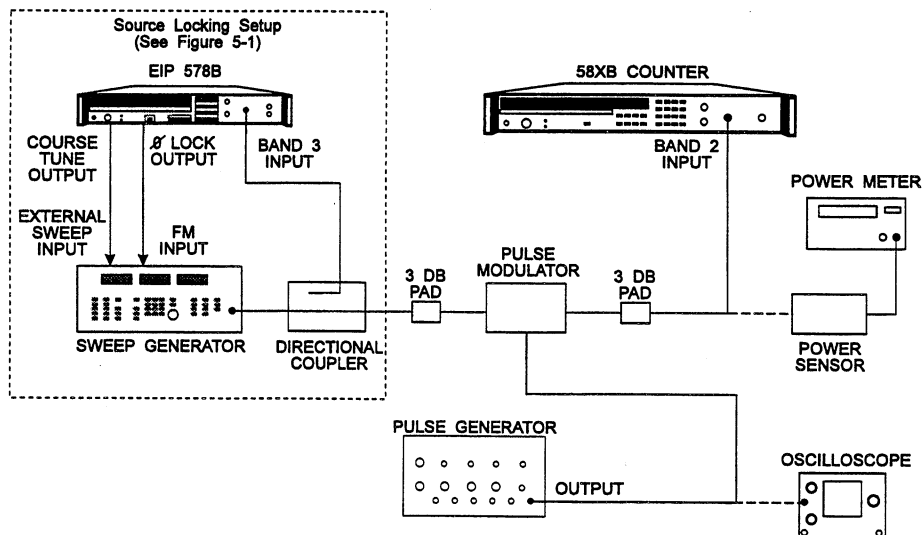

Figure 5-6. Band 2 Pulsed Signal Range and Sensitivity Test Setup.
1. Connect equipment as shown in Figure 5-6.